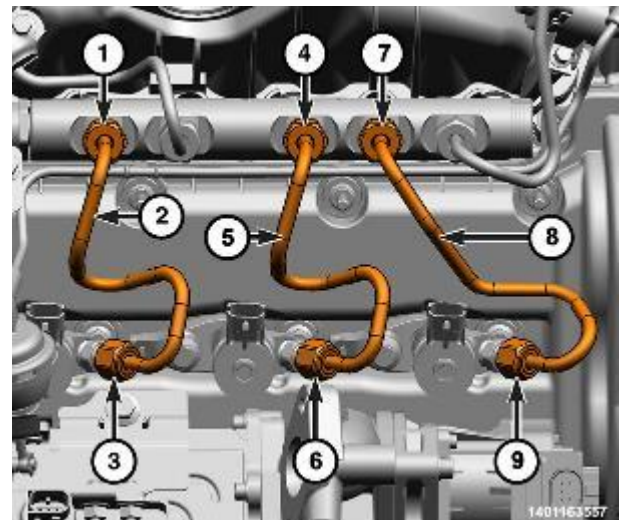

Figure 111 – Right Fuel Injector Tubes
- 30. Unscrew the union nuts (7 and 9) and remove cylinder No. 1 fuel tube (8) and the discard fuel tube (Figure 111).
- 31. Unscrew the union nuts (4 and 6) and remove cylinder No. 2 fuel tube (5) and discard the fuel tube (Figure 111).
- 32. Unscrew the union nuts (1 and 3) and remove cylinder No. 3 fuel tube (2) and discard the fuel tube (Figure 111).